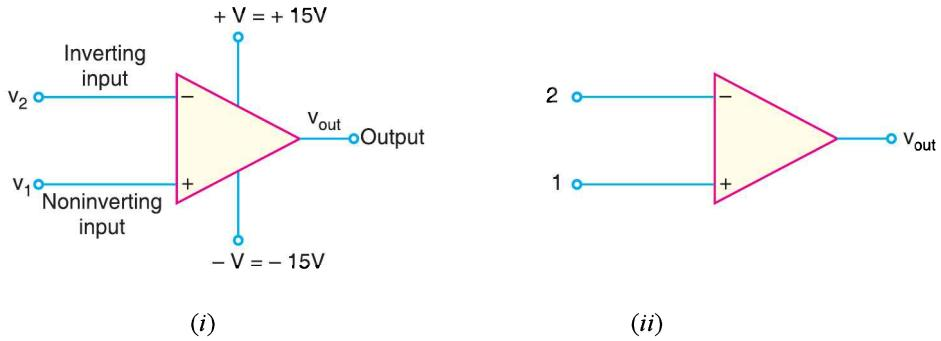

Fig. 25.39
- (iv) For the sake of *simplicity, $+V$ and $-V$ terminals are often omitted from the symbol as shown in Fig. 25.39(ii). The two input leads are always shown on the symbol regardless of whether they are both used.
- (vi) The OP-amp is produced as an integrated circuit (IC). Because of the complexity of the internal circuitry of an OP-amp, the OP-amp symbol is used exclusively in circuit diagrams.